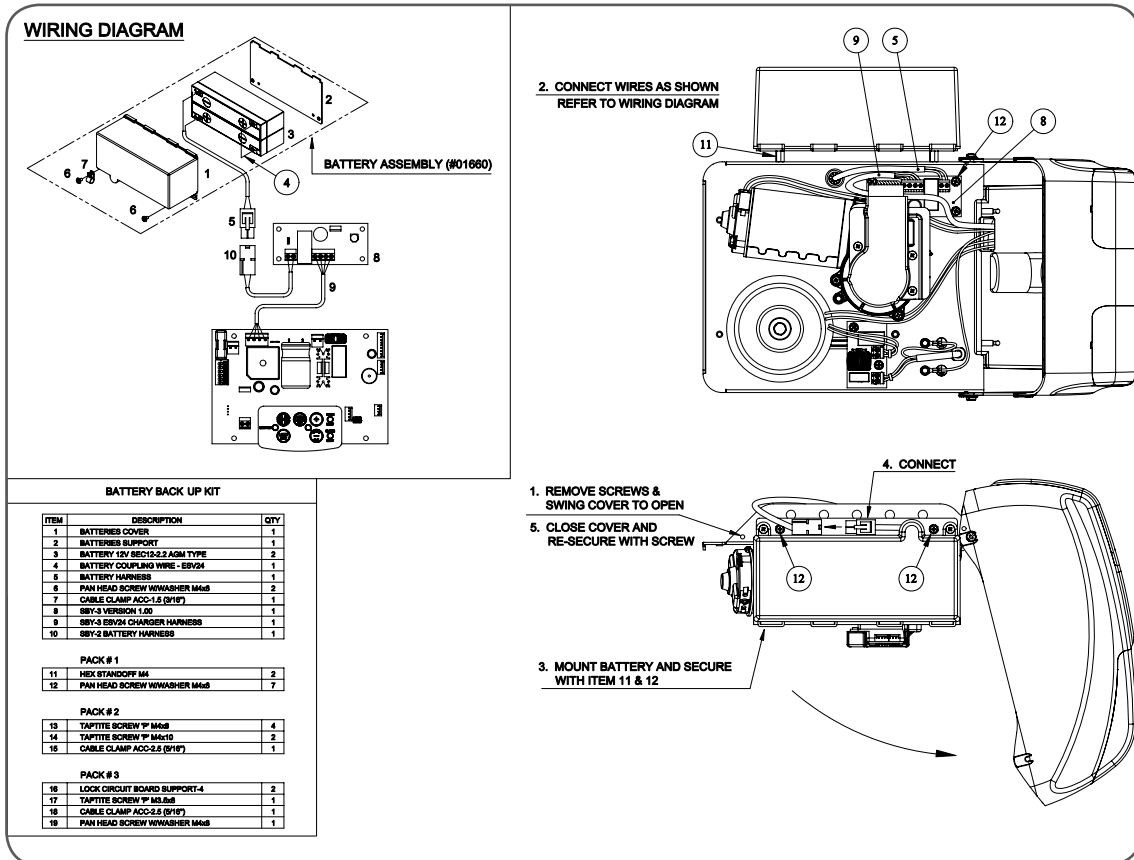

fig 37
2. Remove screws and swing the cover open (Fig. 37).
3. Mount battery pack and secure with item 11 and 12.
4. Mount the SBY-3 Charger Board on the pre-mounted hex spacers and secure with three (3) M4x8 screws.
7. Connect item 3 and 7 together (Fig. 37).